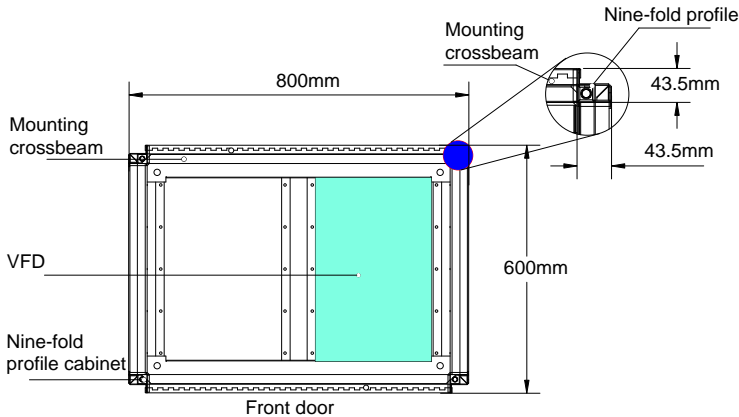

Figure 4-11 Top view of mounting a 280–630kW VFD in a cabinet
1	Mount the crossbeam for VFD fixing in the nine-fold profile cabinet. (See Figure 4-11.)
- A. The nine-fold profile cabinet (PS cabinet) is recommended. Figure 4-11 shows the nine-fold profile cross section.